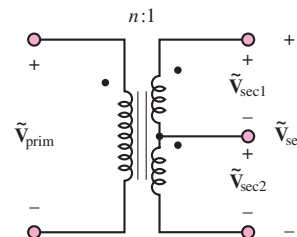

Figure P7.31
- 7.31** A center-tapped transformer has the schematic representation shown in Figure P7.31. The primary-side voltage is stepped down to two secondary-side voltages. Assume that each secondary supplies a 5-kW resistive load and that the primary is connected to 120 V rms. Find
**7.32** A center-tapped transformer has the schematic representation shown in Figure P7.31. The primary-side voltage is stepped down to a secondary-side voltage  $\tilde{V}_{\text{sec}}$  by a ratio of  $n : 1$ . On the secondary side,  $\tilde{V}_{\text{sec1}} = \tilde{V}_{\text{sec2}} = \frac{1}{2} \tilde{V}_{\text{sec}}$ .